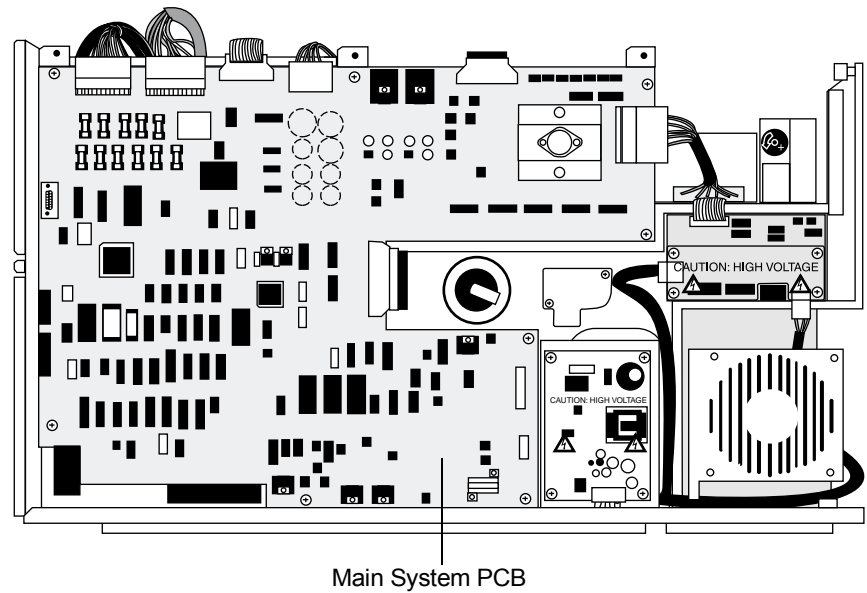

Figure 7-14. Left Side View, Showing Main System PCB.
5. Disconnect all cables to the Main System PCB Figure 7-14 shows the PCB with the cover removed. The following cables are connected to the Main System PCB: